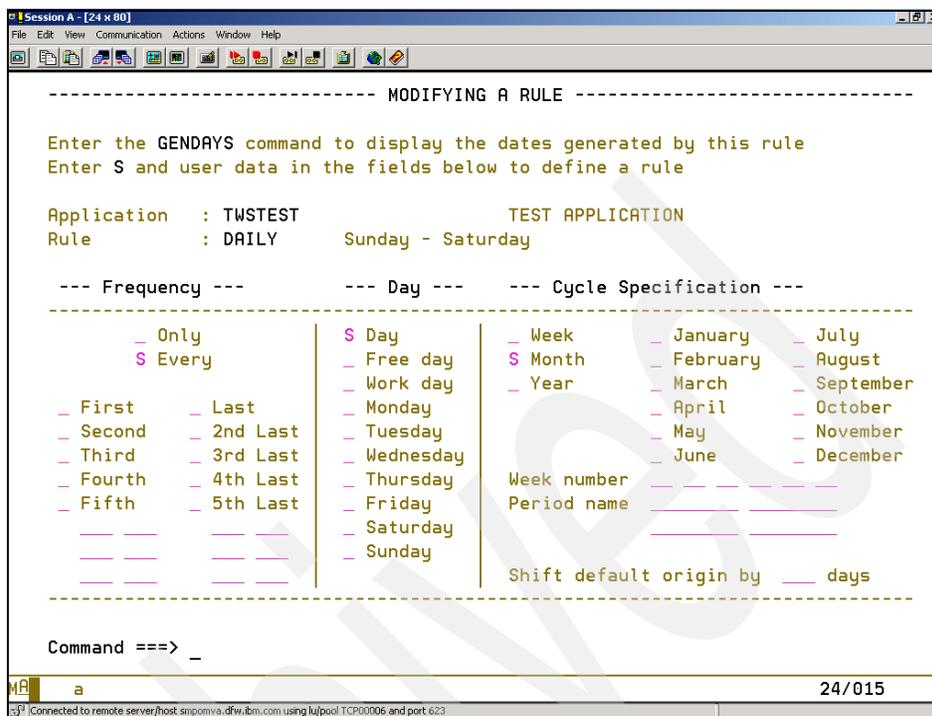
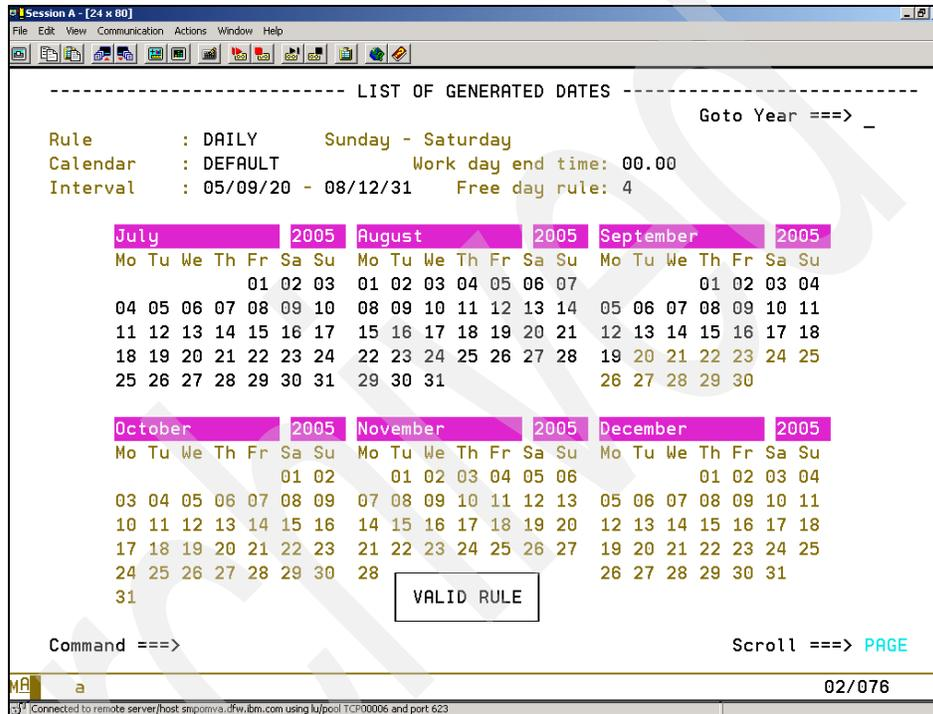

Figure 1-13 Modifying a Rule for an Application
Figure 1-14 GENDAYS results
- S** For selecting the run cycle and making modifications to the run cycle. (See Figure 1-13 on page 47).
4. This takes you to the Modifying a Rule panel (Figure 1-13 on page 47), which is the rule we just created called Daily. Three columns identify our rule, and you choose by putting an S in the blank space. For Frequency, we chose **Every**; in the Day column, we selected **Day**, and for the Cycle Specification we chose **Month** because we want this application to run Every Day of the Month.
5. Figure 1-14 on page 48 shows the results from the GENDAYS command for the rule that we created in step 4 on page 46 (Figure 1-13). The first thing to notice is the VALID RULE box in the lower-middle part of the panel. This tells us that the rule we created was good. Press Enter and that box goes away. GENDAYS gives us an initial six-month block showing when the job will be scheduled. The start Interval is 05/09/20; recall that was our In Effect Date when we started to create the rule. Everything prior to this date is dark and every date on and after 05/09/20 is lighter; this tells us that these dates have already past. You can press PF8 to scroll forward, PF7 to scroll backward, and pressing PF3 to exit.
Looking back at Figure 1-13, more can be done with our rule. You can have Every selected for Frequency and choose from the First or Last column. If we add a selection of First but keep everything else the same, our rule changes significantly: Instead of Every Day of the Month, we would have Every First Day of the Month. We can continue to do that for each selection under Frequency: where we choose the First column we go forward from the start of the month and when we choose Last we go backward starting from the end of the month. It goes up to the Fifth in the First column and 5th Last in the Last Column, and you can add more with the blanks and using numerics only, so